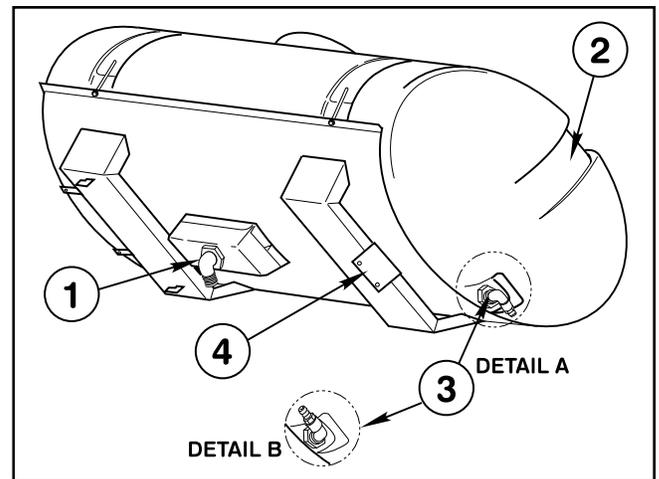
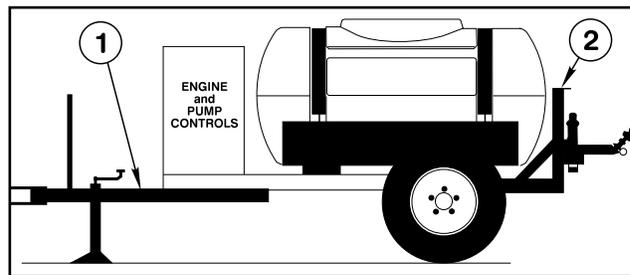
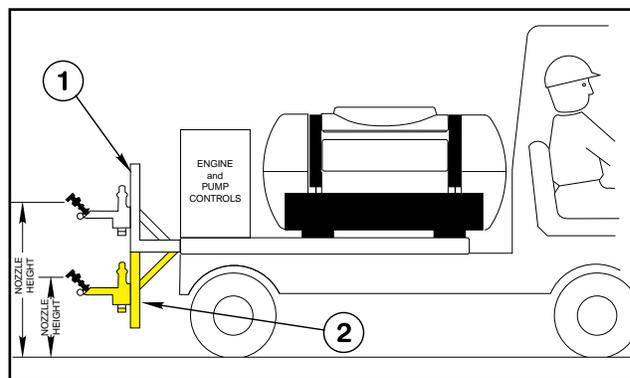

FIG. 2
FIG. 4
FIG. 5
3. Apply thread sealer and install the 90° barbed elbow into the bottom of the Tank. See FIG. 2.
4. Apply thread sealer and assemble the 90° St. elbow into the fitting at the spill-way end of the Tank, so that it angles toward the outside of the Tank as shown in FIG. 2.
NOTE: If the Skid Sprayer is to be installed on a Trailer, (as shown in FIG. 4), install the Elbow and Quick Coupler in the Tank as shown in Detail "A" of FIG. 2. If the Skid Sprayer is to be installed on a Transport Vehicle (as shown in FIG. 5), install the Elbow and Quick Coupler as shown in Detail "B" of FIG. 2.
If the Skid Sprayer is to be equipped with the optional Trailer Package (Model No. 41415), mount the Boom as shown in FIG. 4.
a. If this distance is measured at 24" or less on your vehicle, install the Boom Mounts in the **upright** position. See FIG. 5.